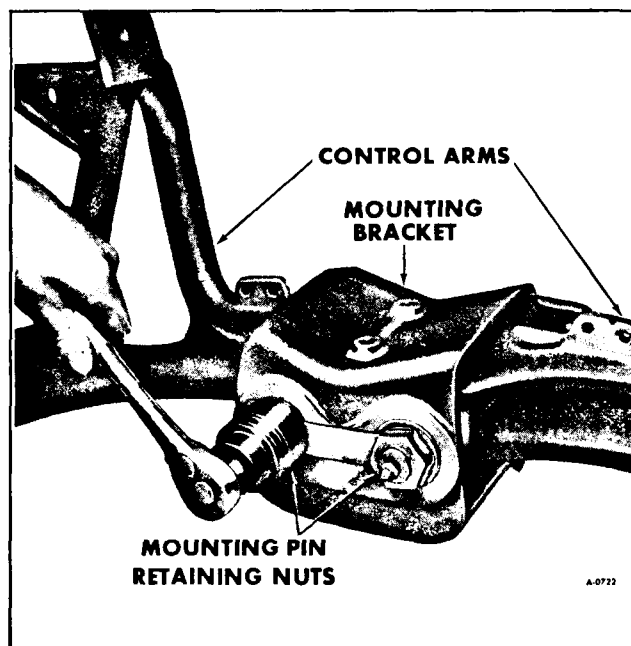
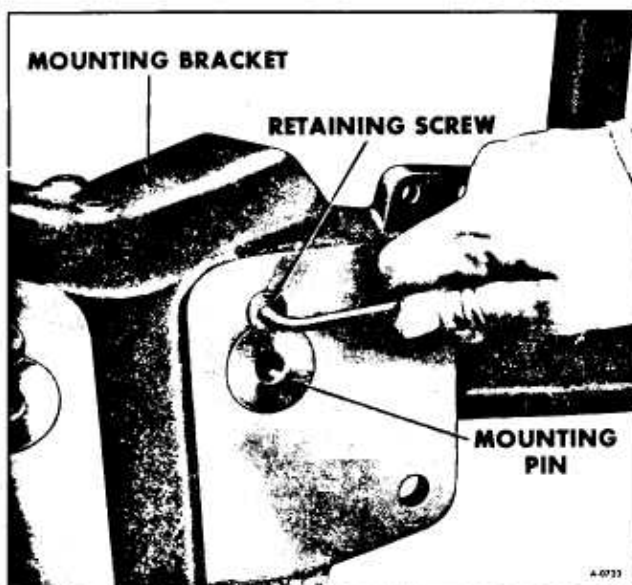

Figure 18—Removing Mounting Bracket Nuts
Figure 19—Removing Allen Head Retaining Screws
12. Referring to Figure 18, remove two nuts on mounting bracket. Remove Allen head retaining screws on back of mounting bracket as shown in Figure 19.